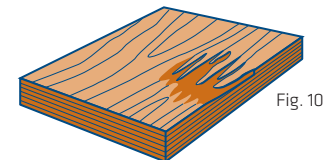

Fig. 10
**Face Breaks** - Irregular cracks across the face of the scaffold plank. Usually a result of overloading, face cracks dramatically reduce the strength of the plank. Remove planks with face breaks from service. (Fig. 10)